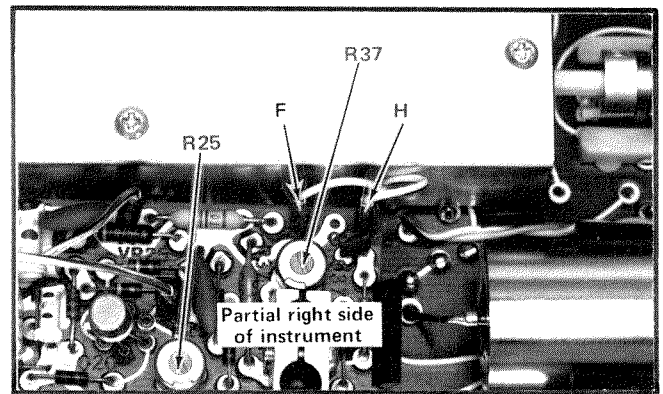

Fig. 5-2. Location of pins for Calibration Step 10.
b. Set the Oscilloscope Vertical Mode to Add. Set both 7A16A Volts/Div to 50 millivolts. Set the Polarity switch of the 7A16A in the right vertical compartment to Invert. Connect a 1X probe from the left vertical plug-in to pin F on the External Input board and a 1X probe from the right vertical plug-in to pin H on the External Input board. See Fig. 5-2 for location of pins.